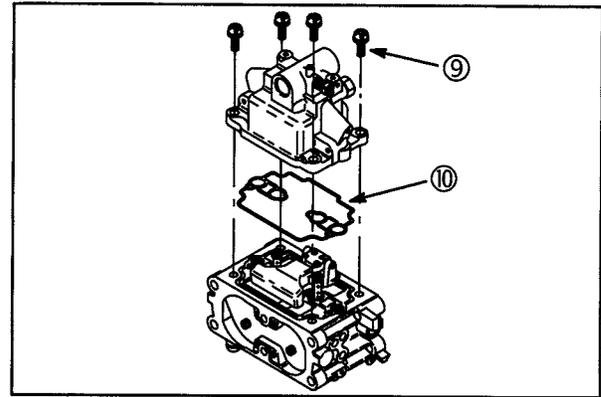

Fig. 62
- Remove carburetor lower body screws (9). Lift lower body straight away from upper body, Fig. 62. Discard gasket (10).